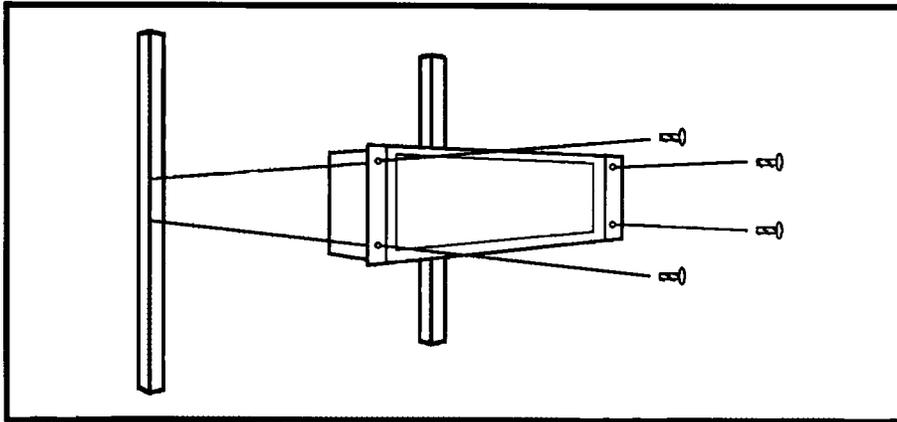

Figure 2–1 RCP–MB Chassis Installation
**Example:** To select polling address 21, set switches 6, 8, and 10 in the "ON" or "1" position. See Figure 2–2.